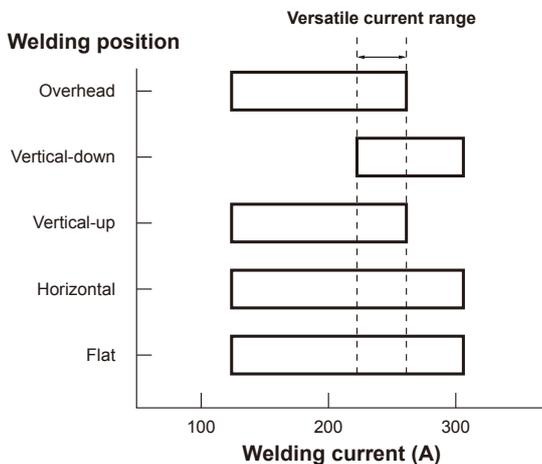

Fig. 1 — Proper welding current ranges and a versatile current range for all-position welding (FAMILIARC™ DW-A50, 1.2 mmØ)
- (1) A wide range of proper welding currents, as shown in Fig. 1, which enables the selection of a versatile current suitable for all-position welding without position-by-position re-adjustment.